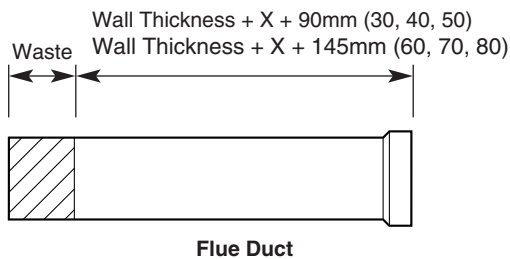

Fig. 48
4. Take the **Flue Duct** and measure the dimension below from the flared end. Cut the waste off the plain end (Fig. 48).